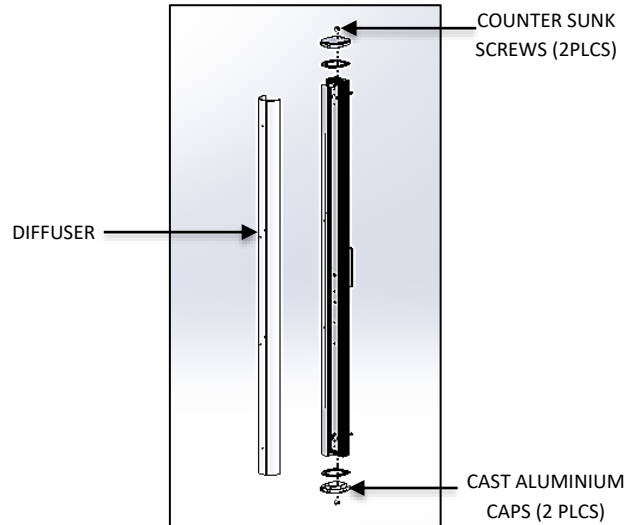

FIG.6 – DIFFUSER DISASSEMBLY
2. Remove the TOP and BOTTOM CAST ALUMINIUM CAPS by unscrewing the COUNTER SUNK SCREWS in the caps. Then, remove the DIFFUSER by sliding it outwards as shown in FIG. 6.